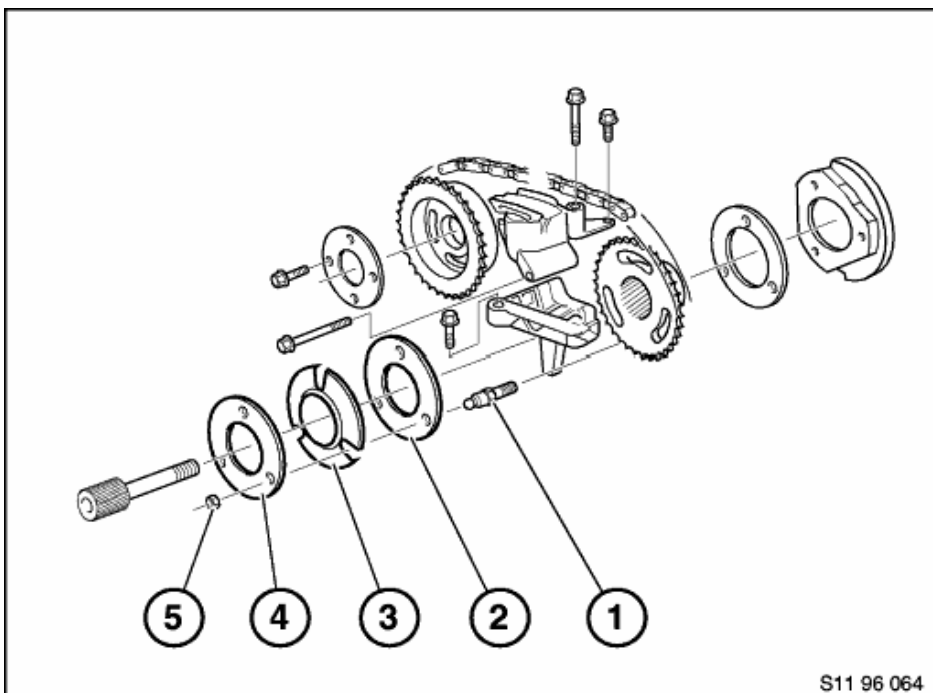

Fig. 3:
- Install 3 new stud bolts (Fig. 3, item 1).
- Fit on thrust washer, 2 mm thick (Fig. 3, item 2).
- Fit on plate springs (Fig. 3, item 3). Note installation direction of plate springs: fit with the large support diameter facing the camshaft.
- Fit on thrust washer, 4 mm thick (Fig. 3, item 4).
- Screw on hexagon nuts (Fig. 3, item 5), using Loctite 273 screw locking varnish.